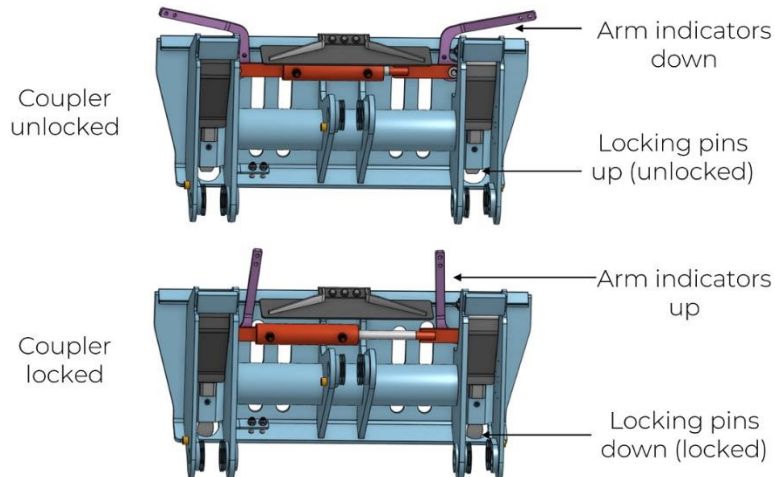

Figure 6: Indicator arm positions to lock and unlock coupler.
2. **If operating the coupler in hydraulic mode**, activate the cylinder to remove the coupler locking pins from the attachment pin lock holes and verify that the pins are unlocked based on the position of the arm indicators, as shown in Figure 6 below.
3. If operating the coupler in manual mode, manually rotate the arm indicators to remove the coupler locking pins from the attachment pin holes, as shown in Figure 6 below